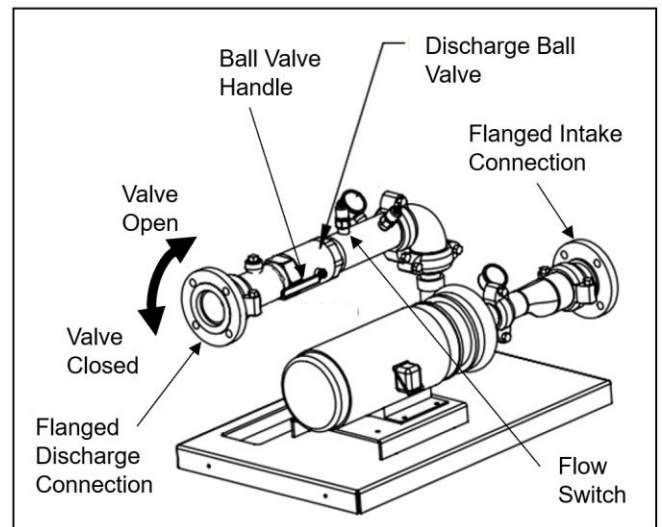

Figure 12-8. Discharge Ball Valve.
1. Open the Discharge Ball Valve (C, Figure 4-1) by placing the handle controlling the valve butterfly parallel to the discharge piping. See Figure 12-8.
1. If Flow Start is desired, the CLPRS includes a factory installed Flow Switch (Q, Figure 4-2) with the pump station on the discharge pipe. See Figure 12-8.